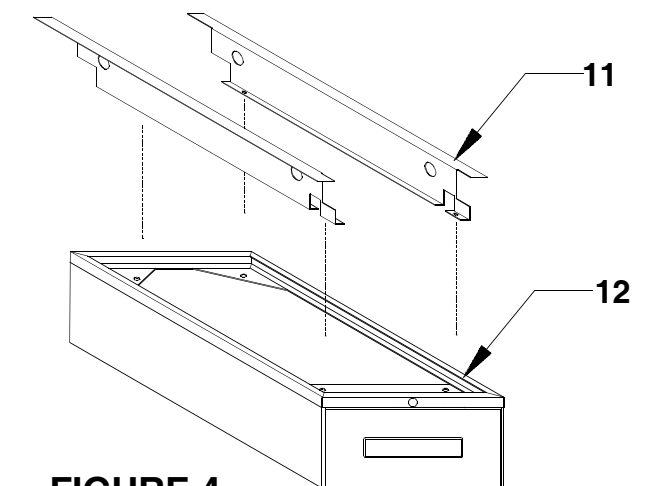

FIGURE 4
DRAWER UNITS (Refer to Figure 4)
- Position drawer hanger brackets (Ref. No. 11) on top of mounting channels of drawer unit (Ref. No. 12) as shown in Figure 4. Secure with $\frac{1}{4}$ x 20 x $\frac{5}{8}$ bolt and J-clip.